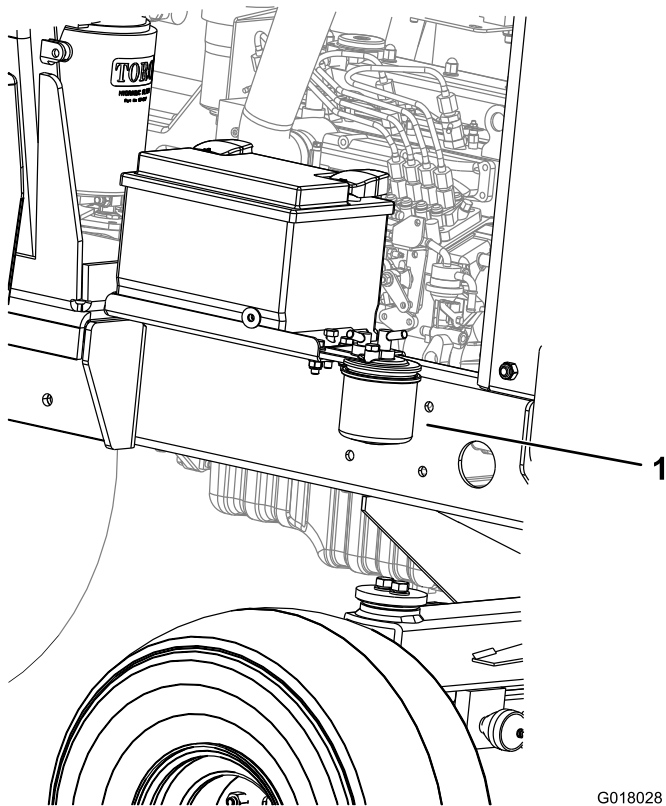

Figure 51
1. Place a clean container under the fuel filter canister (Figure 51).